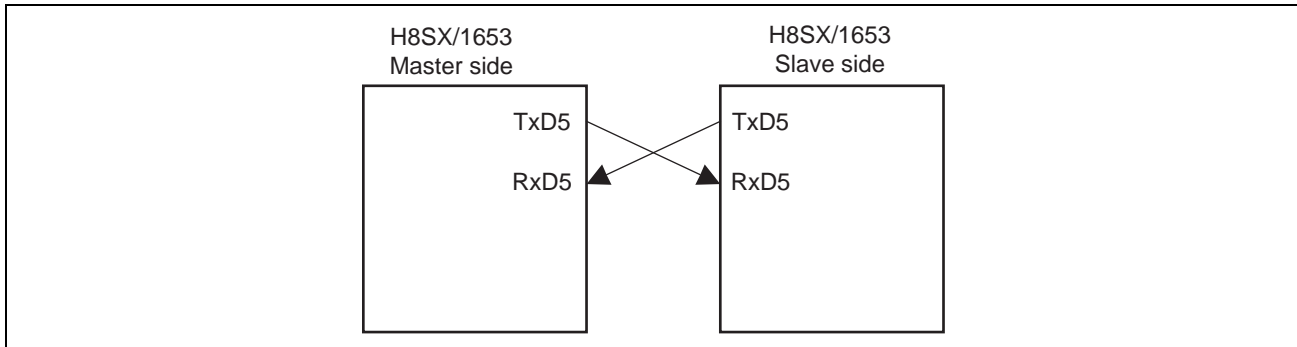

Figure 1 Setup for Asynchronous Transmission and Reception with Timing from the Timer Clock Input
- Figure 1 shows the connections for this sample task.